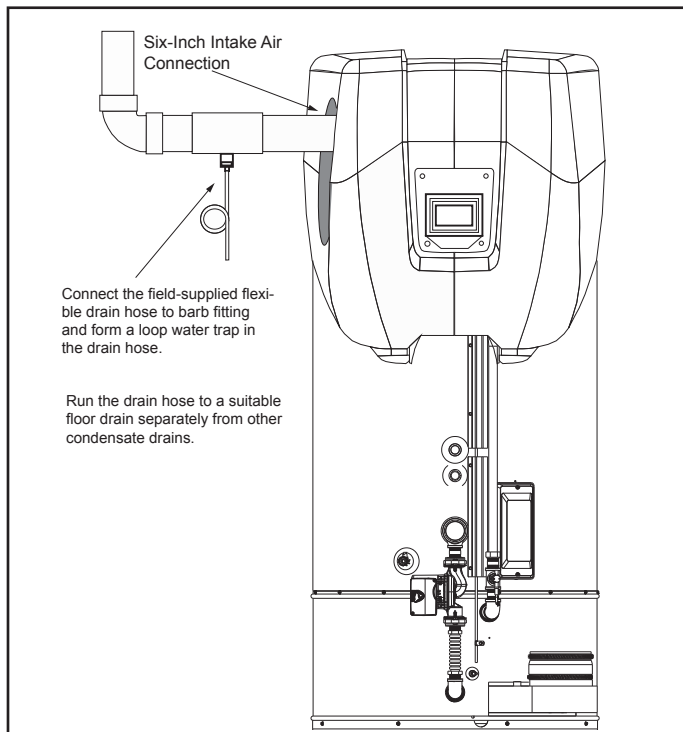

Figure 14. Intake Air Condensate Tee Installation
8. A field supplied condensate Tee fitting and drain hose must be installed in the intake air piping near the water heater in colder climates with heavy snow accumulations and in areas that regularly experience high humidity. The drain hose must be routed to an adequate floor drain separate from any other condensate drains. See *Figure 14* (page 24).
Installations with any of these conditions are required to provide a moisture drain with a trap that flows to a waste drain. See **Figure 14** (page 24) and **Venting Arrangements** (page 28). A horizontal section of the air inlet pipe, near the heater should include a hose barb fitting to drain the water. The drain tubing in any installation should have a loop trap and flow to an appropriate waste drain. The air intake drain line must be entirely separate from the exhaust vent outlet condensate line.